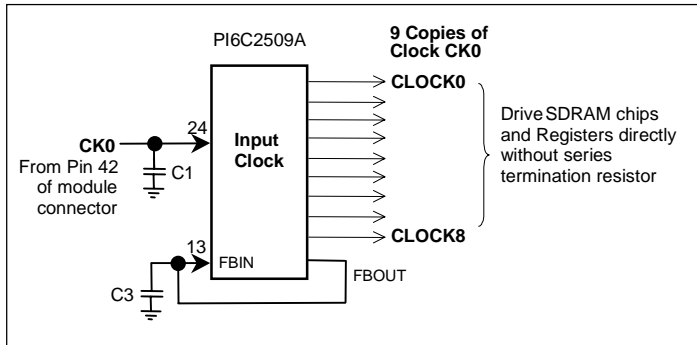

Figure 3. Block Diagram of PI6C2509A
1. As a clock buffer for generating 9 copies of clock outputs from the single clock input CK0 at the DIMM edge connector (see Figure 3).